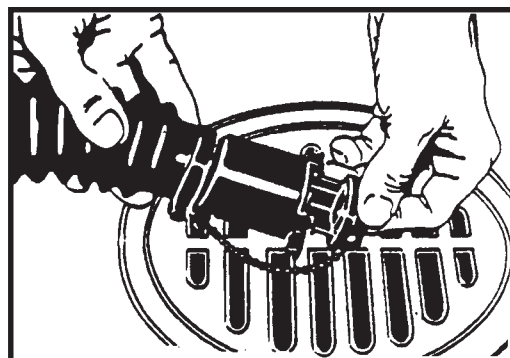

Figure 4
- Turn the valve handle to the left. Pull the handle out to open the drain. (Figure 4)